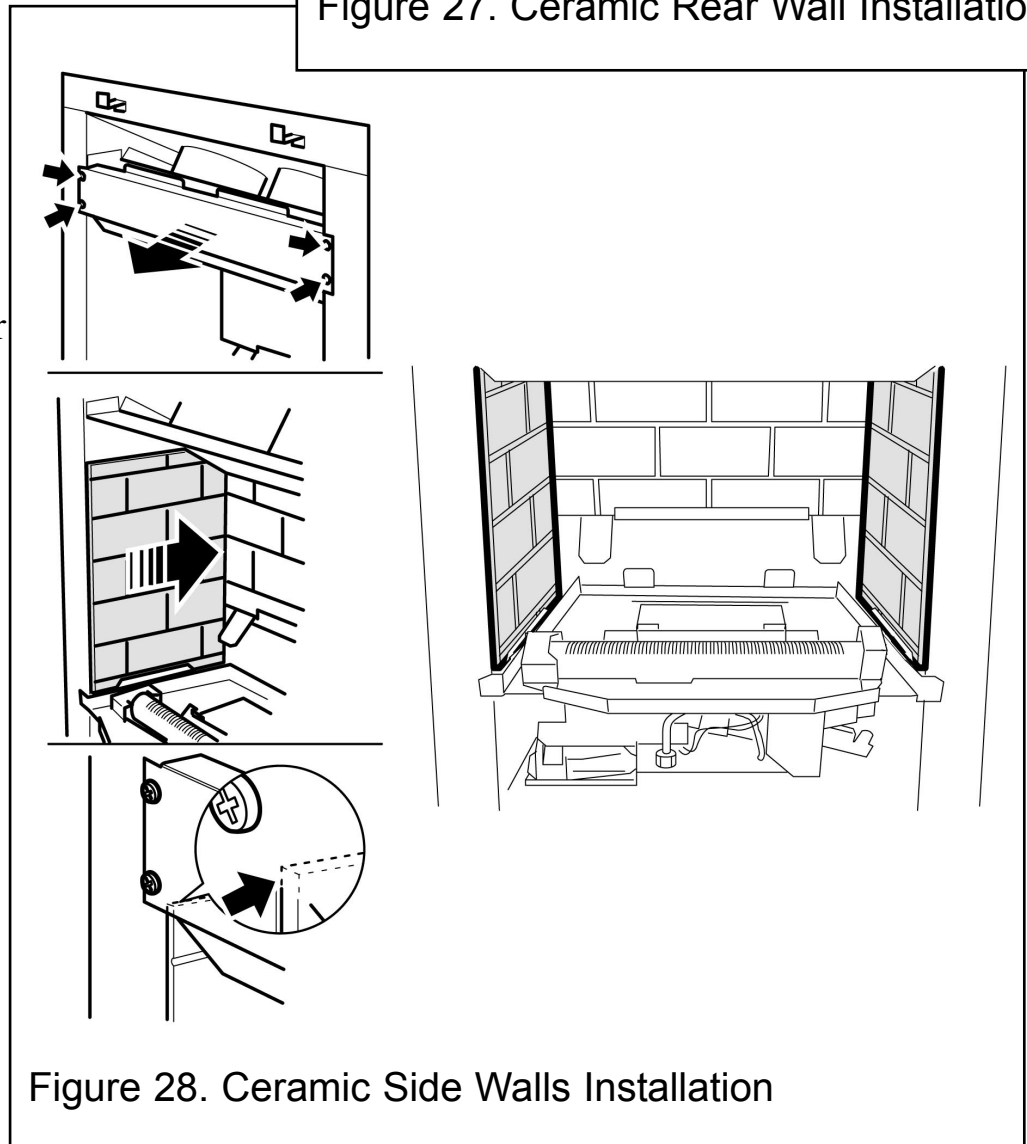

Figure 28. Ceramic Side Walls Installation
2. Remove four screws from the spillage plate sides (See figure 28).
4. Fit the ceramic side walls against the side faces of the burner compartment. The bottom edges of the walls should rest in the ledges at the sides of the firebox. Slide them in from the front and ensure that they touch the rear wall. The friction between the side walls and the rear wall should hold the side walls in position. See figure 28.